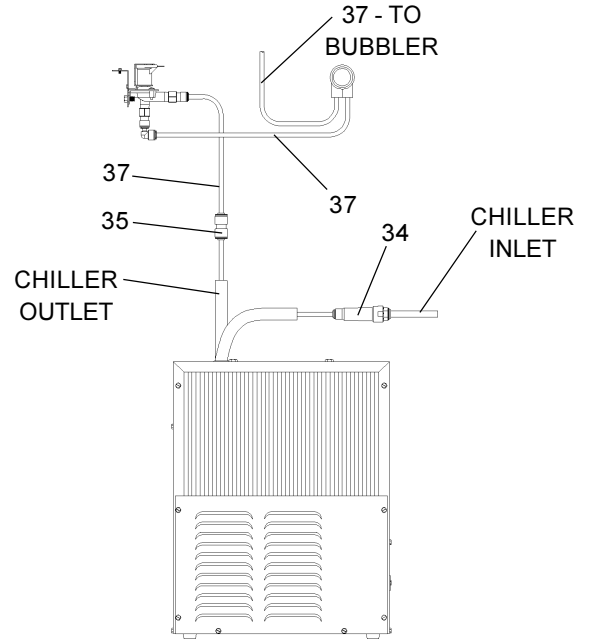

Figure 17 – OVL-II EREE-Q/SREE-Q Tube Routing
4. **Make water supply connections.** Inlet port is marked on the chiller (1/4" O.D. copper tube). Bend the copper tube (provided) at an appropriate length from the chiller to opening in frame. Install the in-line strainer (provided with chiller) by pushing it in until it reaches a positive stop, approximately 3/4" (19mm) on the marked chiller inlet port (See Figs. 17 & 18). Attach an unplated and deburred copper water inlet line and a service stop (not provided) to the chiller. Turn on the water supply and flush the line thoroughly.
5. **Make connection between remote chiller outlet tube and solenoid valve assembly.** Outlet port is marked on the chiller (1/4" O.D. copper tube). Install a 1/4" union/tee (provided) on the marked chiller outlet port. Insert one end of 1/4" poly tubing into the union/tee and the other end into the straight fitting on the solenoid valve assy (See Figs. 17 & 18)
9. **Make connection between solenoid valve assembly and fountain(s).** Insert the 1/4" poly tubing coming from the fountain with sensor into the solenoid valve. Insert the 1/4" poly tubing coming from the fountain with push button into the tee (See Figs. 17 & 18).